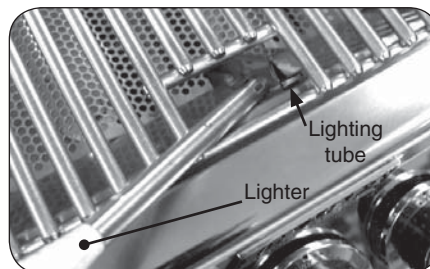

Fig. 15-2 - Manual lighting
**CAUTION:** Always wait five (5) minutes for gas to clear after any unsuccessful lighting attempt.
2. Insert either a burning long-barrel butane lighter or a burning long-stem match through the cooking grid opening to the top of the lighting tube. (Fig. 15-2). For backburners, hold the flame against the perforated material of the backburner. For sideburners, hold the flame against the burner.
4. If the burner does not light, **immediately depress the knob and turn the valve to OFF**. **WAIT FIVE (5) MINUTES** before repeating steps 2 through 4 of the **MANUAL LIGHTING** instructions.